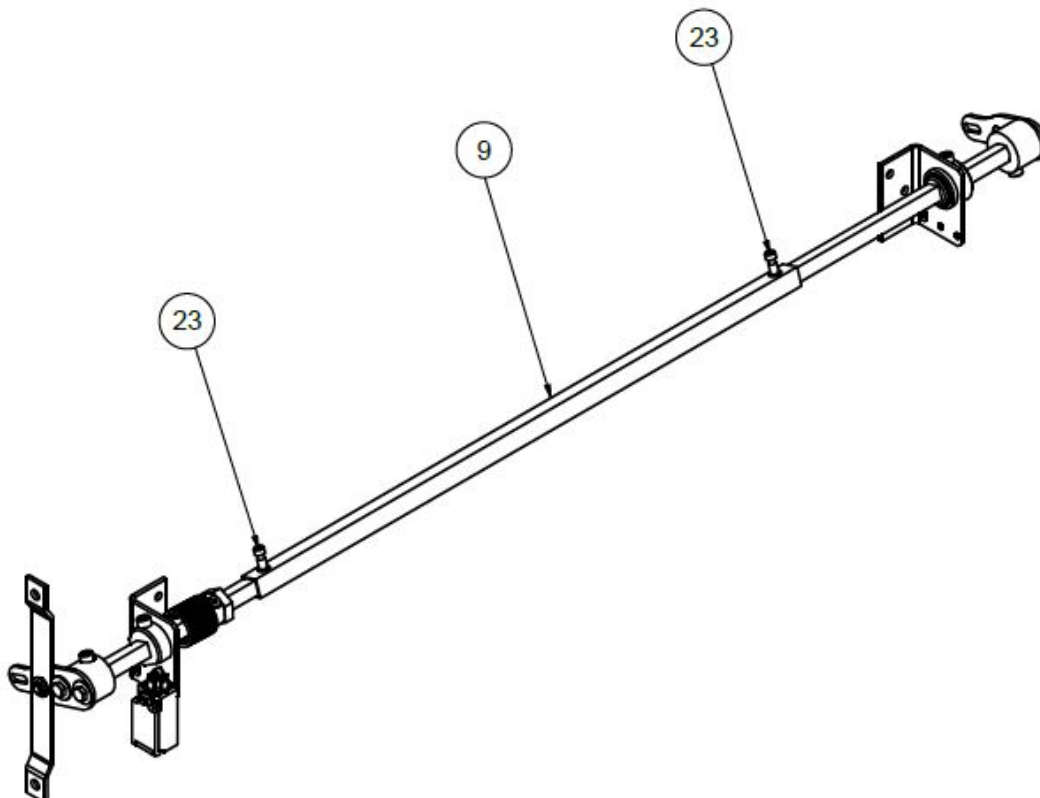

Figure 6
Screw the ends of the driving bar shaft (9) to each of the arms, using DIN 912 8.8 M6 x 20 screws (23). See Figure 6.